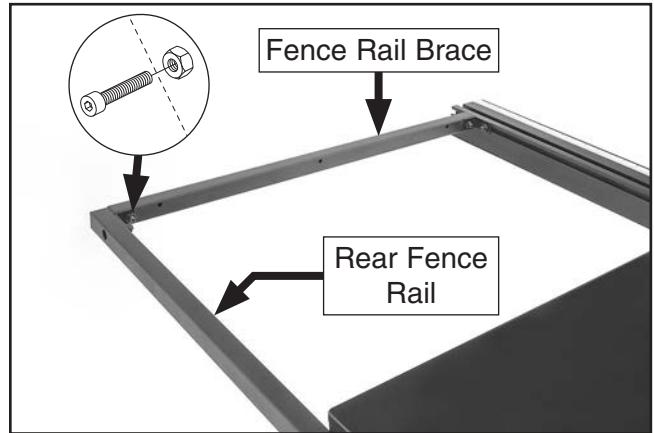

Figure 30. Attaching rear end of fence rail brace.
- 28.** Using a helper, mount fence rail brace to rear fence rail with M8-1.25 x 16 cap screw and M8-1.25 hex nut (see **Figure 30**). Do not fully tighten cap screw at this time.